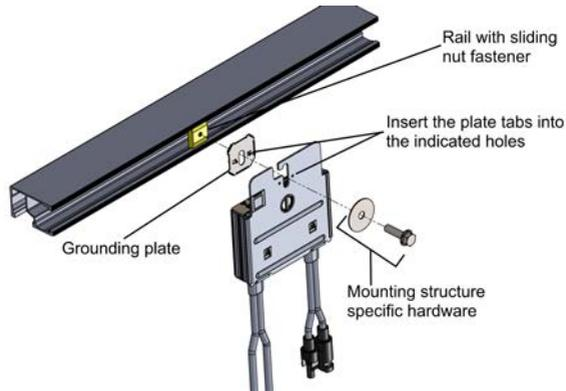

Figure 4: Power optimizer installation and grounding using a grounding plate
- For mounting on rails with sliding nut fasteners:** If the star washer cannot be used, use the SolarEdge grounding plate (purchased separately) between the railing and the flat side of the mounting bracket. Use mounting specific hardware as needed. Apply a torque of 9.5 N*m / 7 lb*ft. See *Figure 4*.